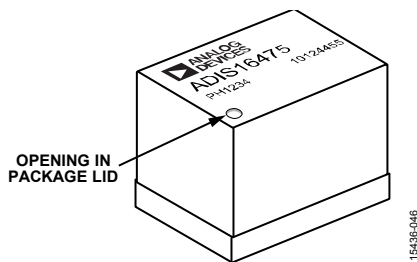

Figure 44. Pressure Relief Hole
- The hole in the top of the lid (see Figure 44) provides venting and pressure relief during the assembly process of the ADIS16475. Keep this hole clear of obstruction while attaching the ADIS16475 to a PCB.